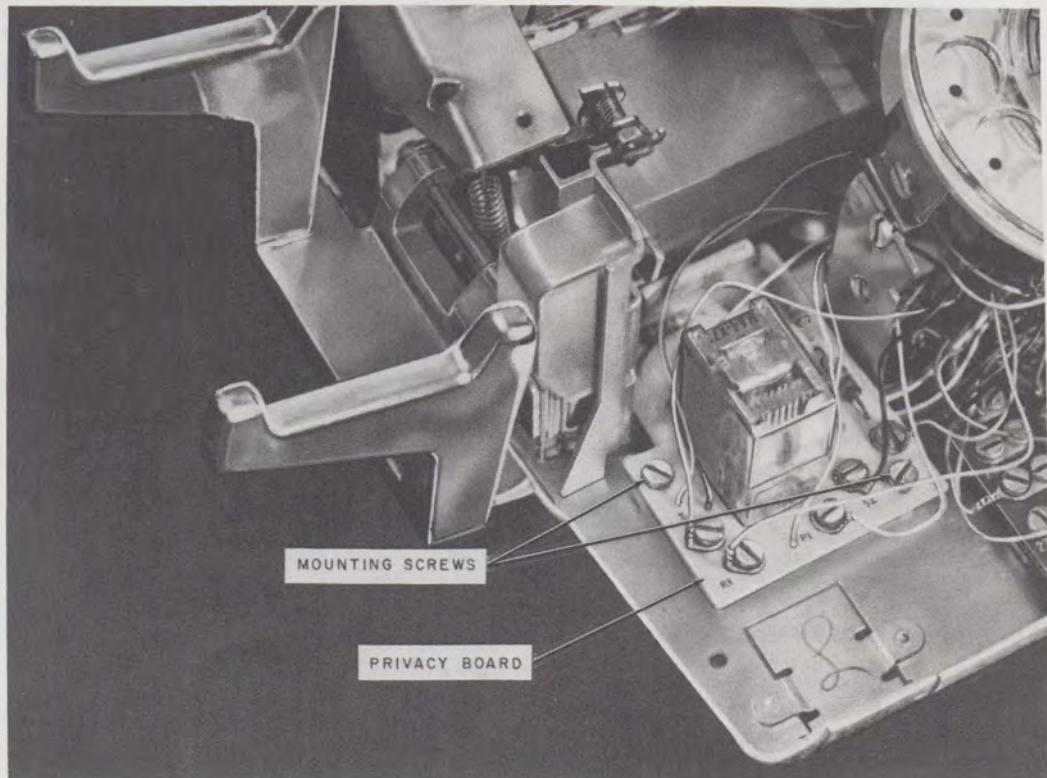

Fig. 3—Privacy Circuit Board Mounted in Telephone Set
- (1) Mount privacy circuit board on the two standoffs located at the left front of the telephone set base (Fig. 3) using mounting screws furnished with the telephone set.
- (2) Refer to Table C for connections.
- (3) To test privacy circuit refer to 3.04.